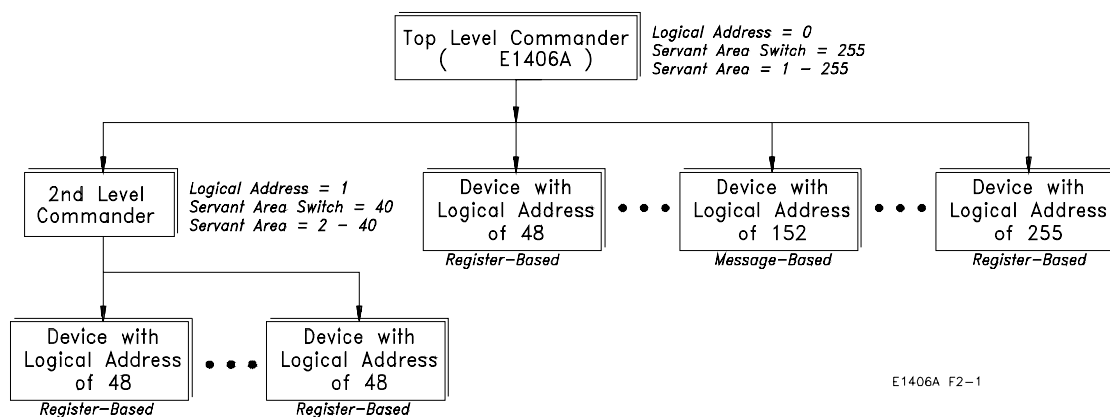

Figure 2-1. Example of Commander/Servant Hierarchy
During the configuration sequence, the resource manager assigns servant modules to a commander module based on the servants’ logical addresses and the commander’s servant area. The concept of the servant area is shown in Figure 2-1. The *C-Size VXIbus Systems Configuration Guide* shows how to set the command module’s servant area.
- If within a given commander’s servant area (Figure 2-1) there is another lower-level commander(s) (logical address 1), the given commander will control the lower-level commander. However, all modules within the servant area of the lower-level commander (logical addresses 2 - 41) will be controlled by the lower-level commander.
- The command module will always be the commander for IBASIC even if IBASIC’s logical address (240) is outside the module’s servant area. There can be multiple IBASICs in the same system since each is a servant to its respective command module. Note that there are no VXIbus registers for IBASIC.